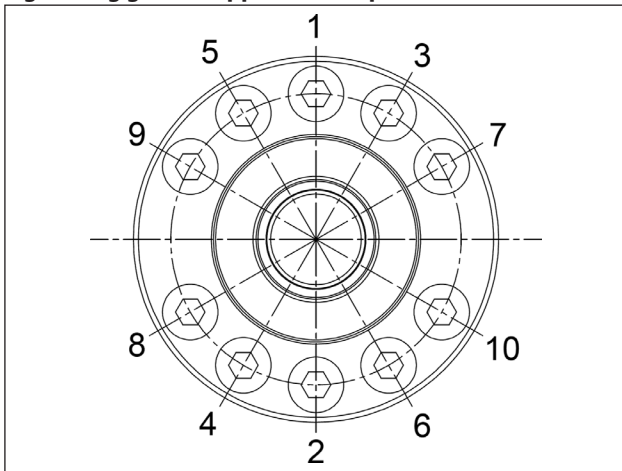

Fig. 130
** The support fixing screws must be tightened respecting the phases and order shown in the diagram in Fig. 130.